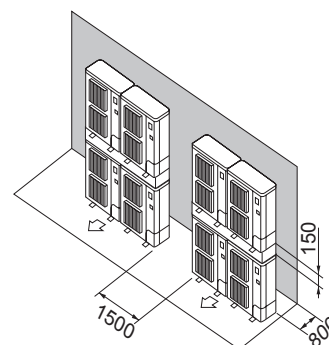

Fig. 4-18
- Stacked unit arrangement (Fig. 4-18)